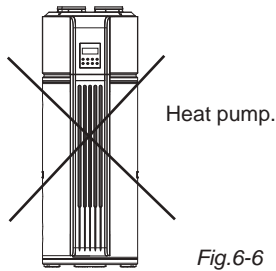

Fig.6-6
- Warning: In case of rain entering the internal components of the heat pump, components might be damaged hence causing physical danger. (Fig.6-6)